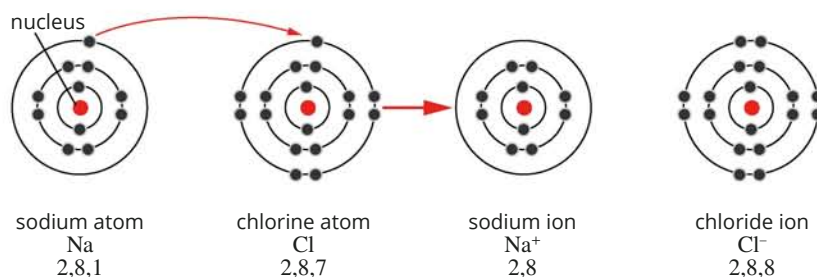

FIGURE 4.3.1 Electron transfer diagram showing the formation of sodium and chloride ions.
Figure 4.3.1 illustrates how, when sodium reacts with chlorine, an electron is lost by a sodium atom and gained by a chlorine atom. A diagram of this type is called an **electron transfer diagram**.
- 2 Use diagrams similar to Figure 4.3.1 on page 94 to show the formation of ions in the reactions between: